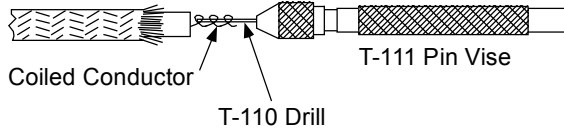

Figure 3.3.2H
- c. Turn pin vise clockwise until drill has reached a depth of 1/2" (See Figure 3.3.2H).